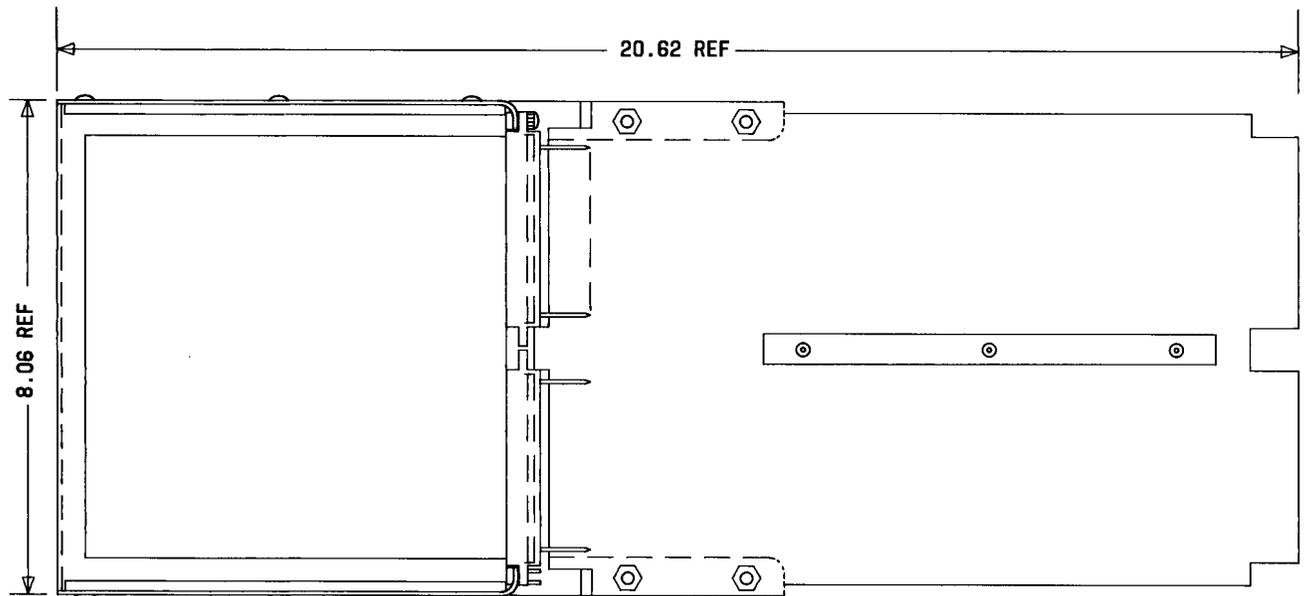

Fig. 4—226A Extender Tool
2.13 226A: The 226A extender tool (Fig. 4) is designed to extend AC-type circuit packs from their normal mounting position for in-circuit testing. This extender is used on the 800A, 801A, and 805A PBX.